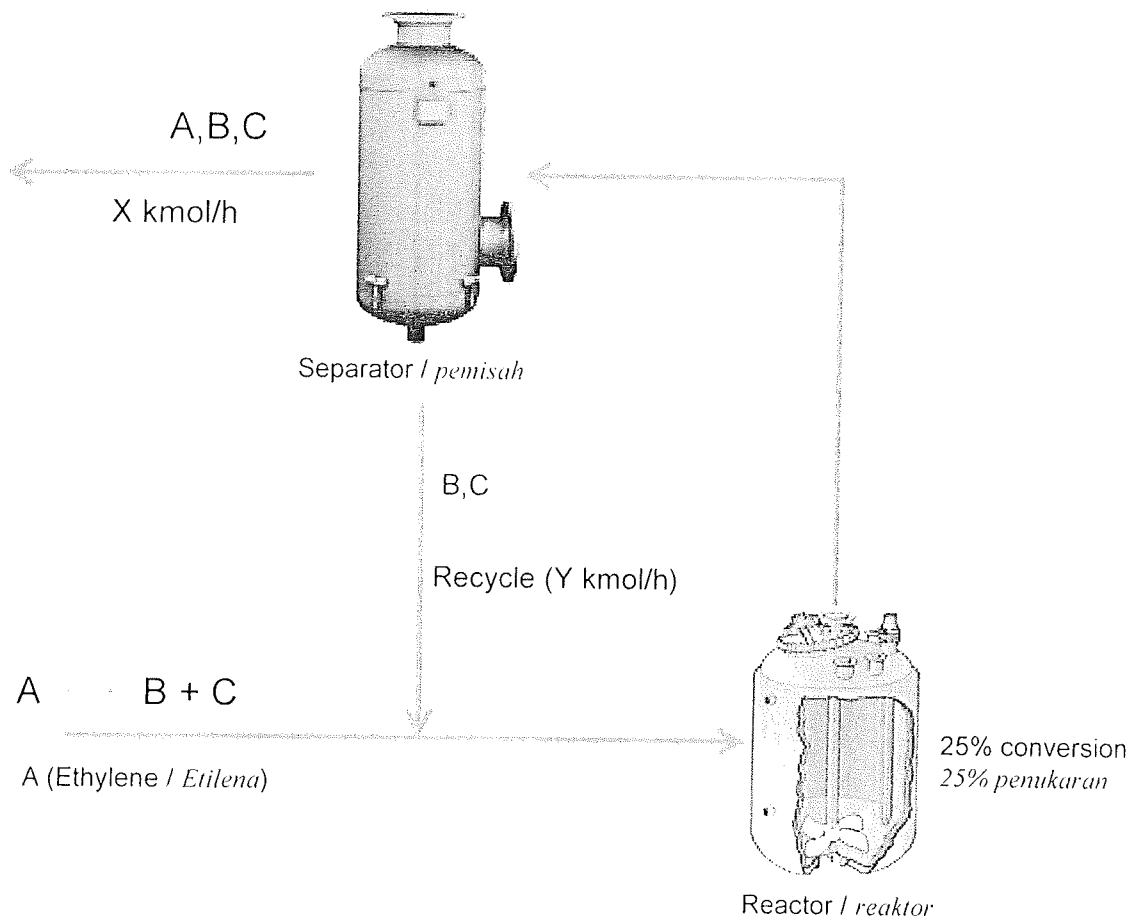

Figure 2 - Polymerization reaction of polyethylene
- [b] Based on Figure 2, some of the unreacted monomer was separated and recycled back to the reactor in order to increase the efficiency of the process. If the flow rate of the feeding material into the process is 100 kmol/h and 50% of the effluent in the reactor product stream is recycled, determine: